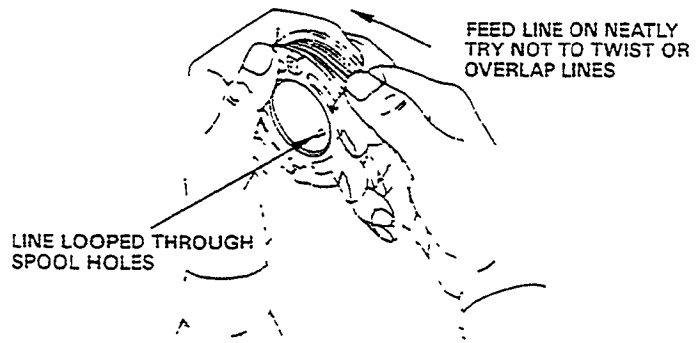

Figure 15
- Loop the line through holes in the spool (Fig. 15) and pull out evenly.
- Insert each line into its respective linesaver, and place spool into the head body (Fig. 15). **Note: Do not allow lines to slip beneath the spool.**